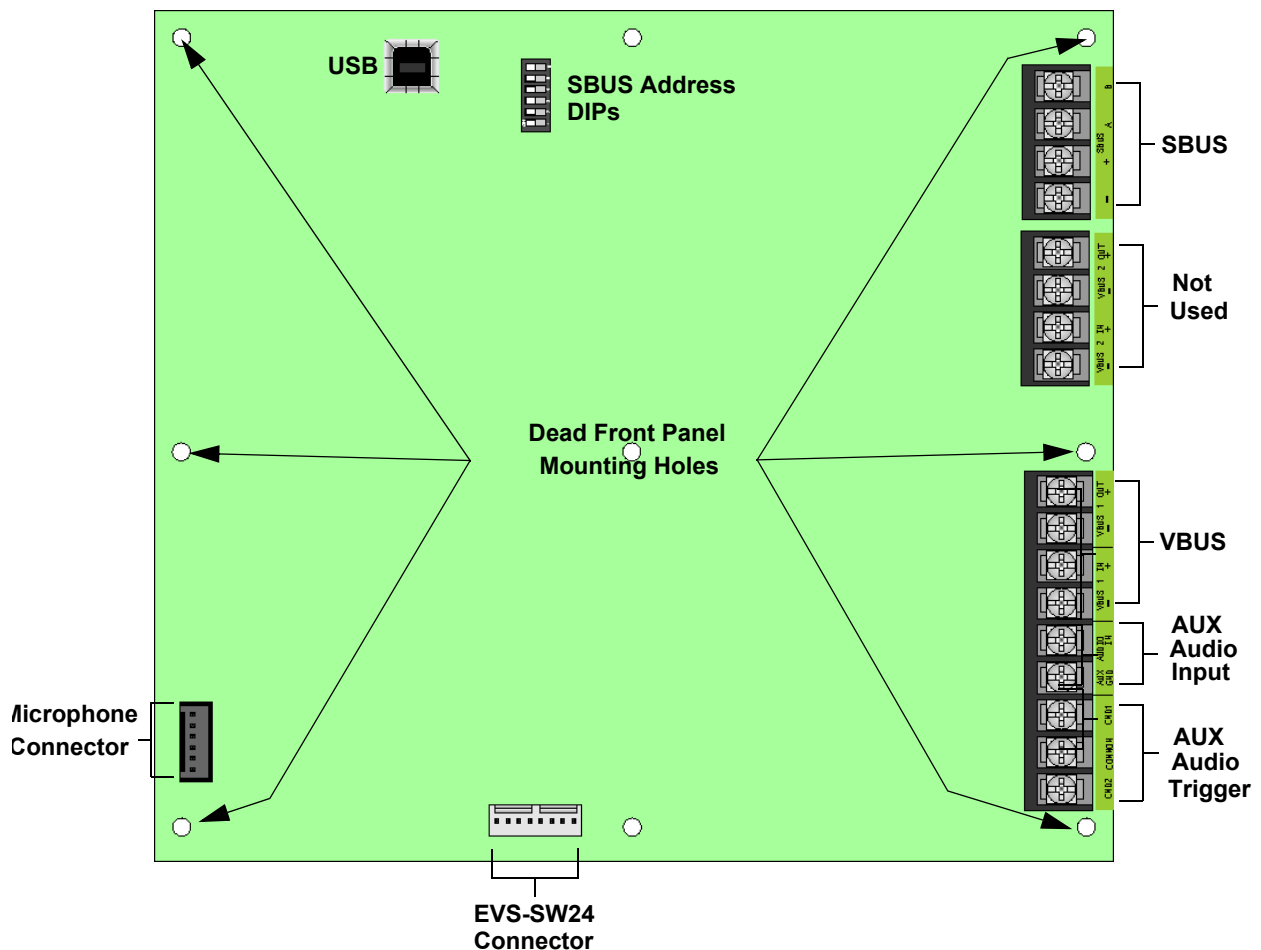

Figure 4-5 Back View of EVS-VCM
3. Disconnect any devices connected to the VBUS. See Figure 4-5.